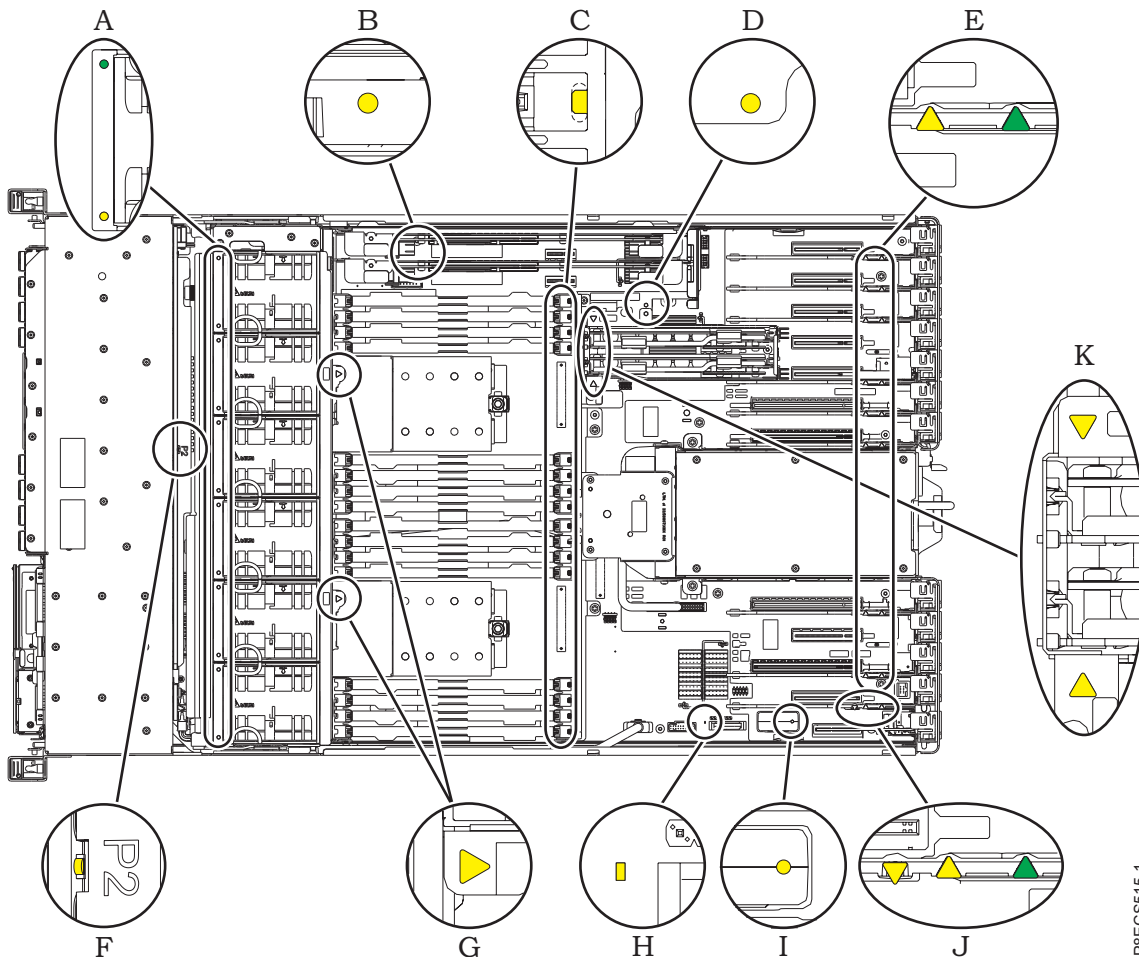

Figure 1. Service indicator LEDs
7. Look for the amber LED (D) of the system backplane. See Figure 1.